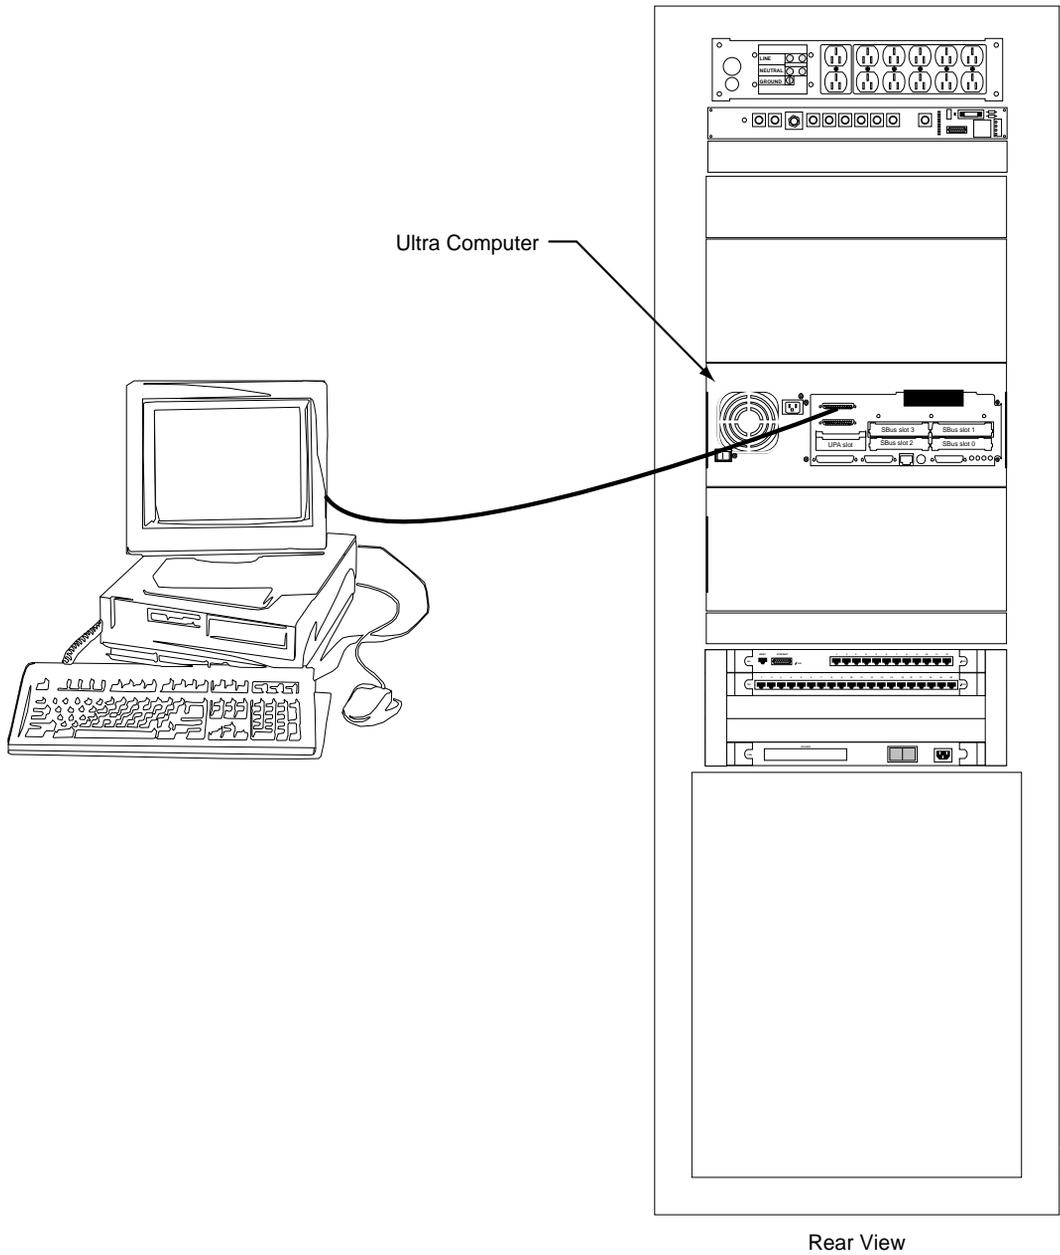

Figure 6-1: Test Equipment Setup
3. Connect a terminal to the serial port TTYA on the rear of the primary Ultra computer (see Figure 6-1).
1. Verify that the VT100 cable is connected to the primary Ultra computer Serial A (TTYA) port, located on the back of the Ultra computer (see Figure 6-1).